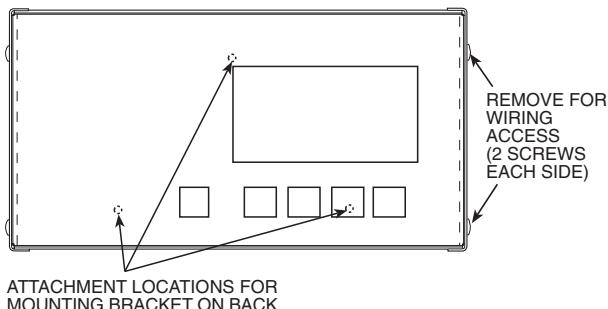

Fig. 2 — Remote Enhanced Display and Control Box Assembly
- Locate the remote enhanced display/control box assembly. Remove the four 10-32 x 3/8-in. machine screws that secure the enhanced display to its control box. Separate the display from the control box. See Fig. 2. Place the screws and the display in a safe location for later use.